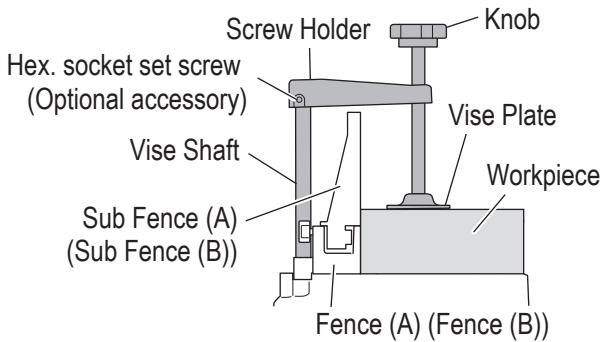

Fig. 20
3. Using the Vise Assembly (Standard accessory) (Fig. 20)
(2) Turn the upper knob and securely fix the workpiece in position. (Fig. 20)